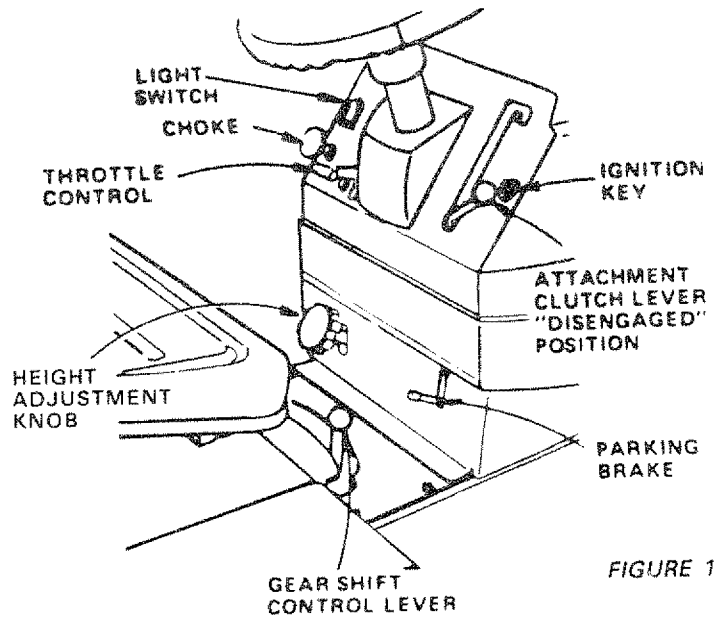

FIGURE 17
- Place attachment clutch lever in "disengaged" position (Fig. 17).
- Place gear shift lever in "NEUTRAL" position (Fig. 17).
- Pull choke out (Fig. 17).
- Move throttle control to middle position (Fig. 17).
- a. Select desired height of cut position using height adjustment knob (Fig. 17).